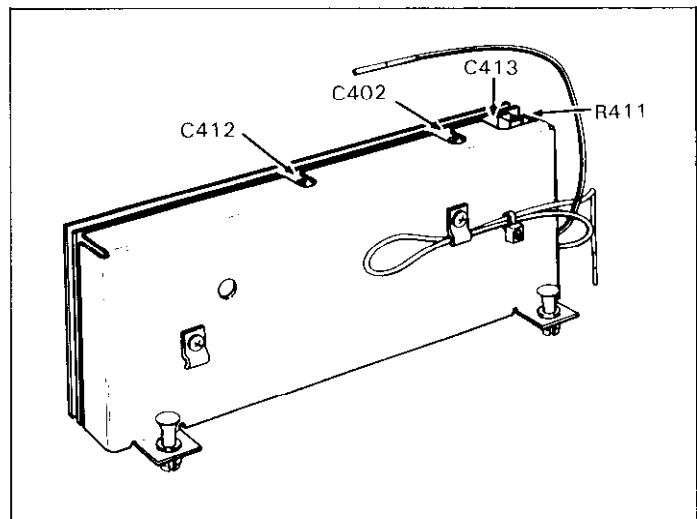

Figure 6-7. TRMS AC Volts Calibration Adjustments
- D. After allowing sufficient time for the measurement to settle, use an insulated alignment tool to adjust C413 (see Figure 6-7) for a display reading of 100.000V ± 250 counts.